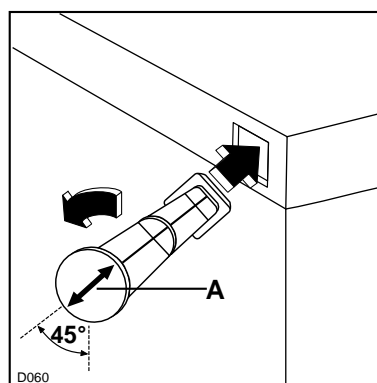

Fig. 2a
Fit the spacers into the holes, taking care to ensure that the arrow (A) is positioned as shown in Fig. 2a. Then turn them through 45° (arrow (A) vertical) until they lock into place.